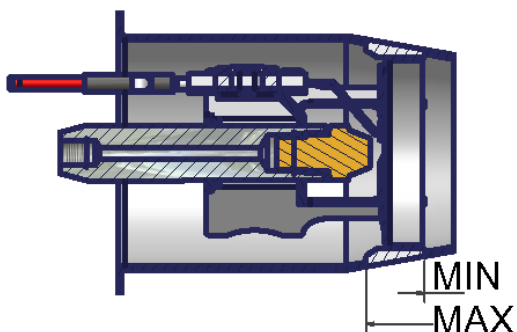
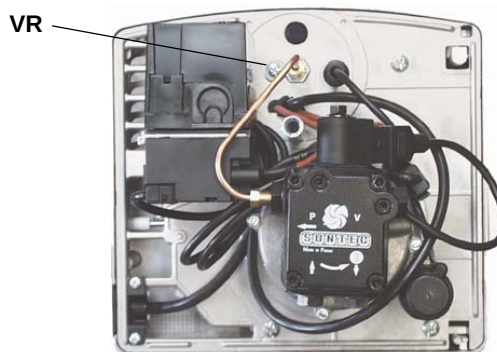

Fig. 22
Fig. 23
The burner is set in the factory with the combustion head in the "MAX" position, corresponding to the maximum power (combustion head all-forward). To operate the burner at a lowest strenght, progressively shift back the combustion head, toward the "MIN" position, rotating the VR screw clockwise (Fig. 23).
- 1 Hang the plate in one of the ways shown in Fig. 22 and Fig. 23 in order to facilitate maintenance operations.
⚠ **CAUTION:** the electrodes (E in Fig. 23) must be placed on the combustion head side.
⚠ **NOTE:** while reassembling the component plate, be careful that the air damper pin enter correctly into the slot B (see Fig. 23).